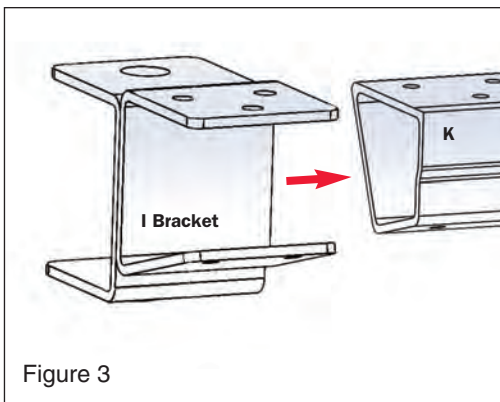

Figure 3
Slide a Front Door Surround Bracket (I) onto the Left Hand Front Door Bar (K). (See FIG 3) For other side, slide the Front Door Surround Bracket (I) onto the Left Hand Front Door Bar (L).